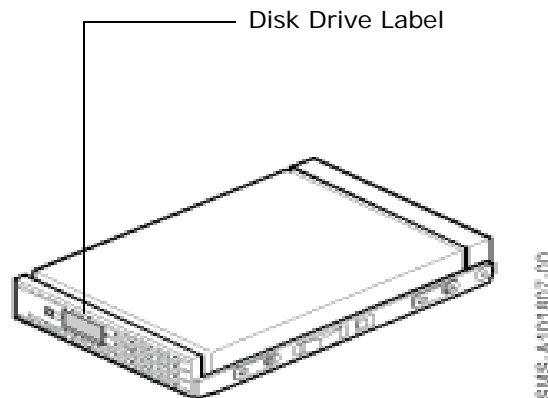

Figure 4-5: Label on Disk Drive
3. If you are replacing the drive due to a failure code you received, verify that the failure code in the Failed Part List window matches the model of the disk drive shown on the disk drive label (see Figure 4-5):